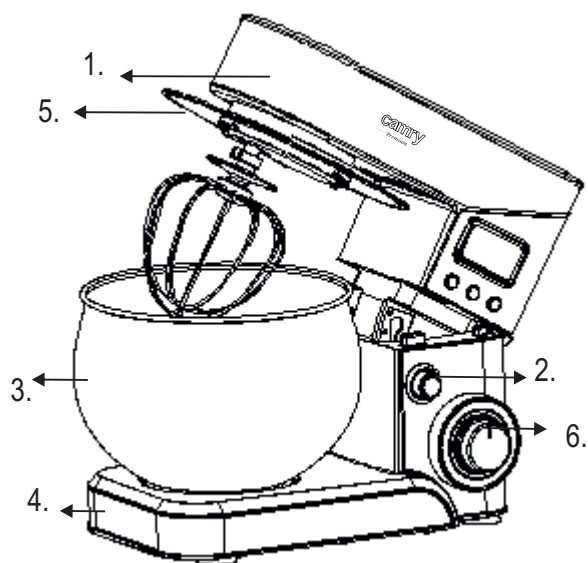

Fig. 1
DESCRIPTION OF THE DEVICE (figures 1 and 2 and 3)
4. Place the bowl (3) on the base (4), then turn the bowl (3) in clockwise until it locks.
5. To lower the top of food processor (1), press the tilt button (2) and push by one hand the top of food processor (1) down. A click sound will be heard when the part has reached the correct position. Make sure the bowl cover (5) is fixed in place (see figure 1).